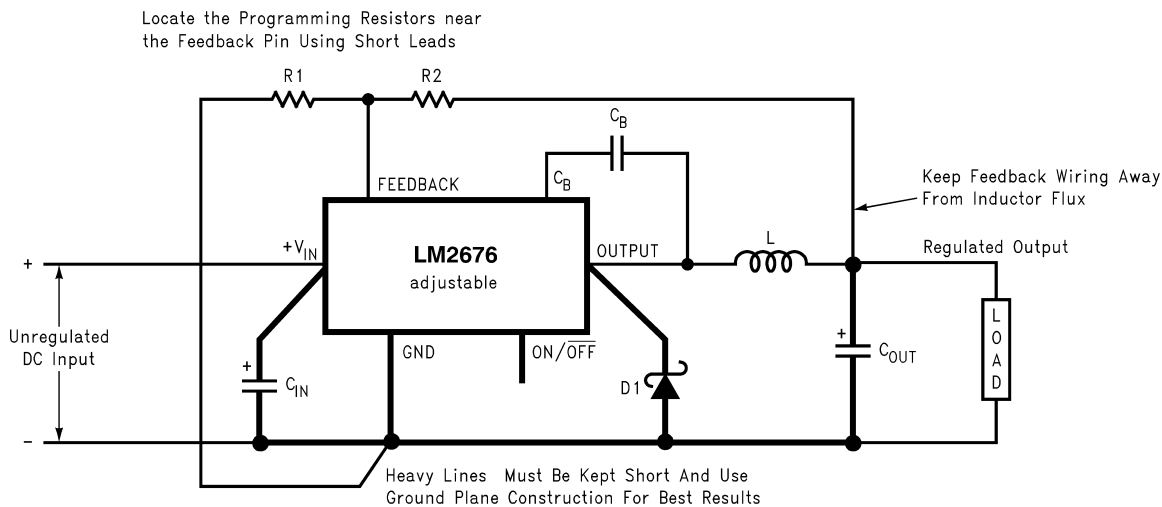

Figure 22. Basic Circuit for Adjustable Output Voltage Applications
Step 2: Select an LM2676S-ADJ. To set the output voltage to 14.9 V, two resistors need to be chosen (R1 and R2 in Figure 22). For the adjustable device, the output voltage is set by the following relationship: